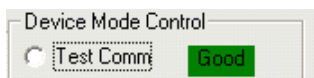

FIGURE 10.
- **Test Communication** with the IC by clicking the button shown in Figure 10; if it shows “good”, then the Hardware and Software are properly set up; if it says “fail”, then check your connections. If the problem still persists, then you may want to restart the software.